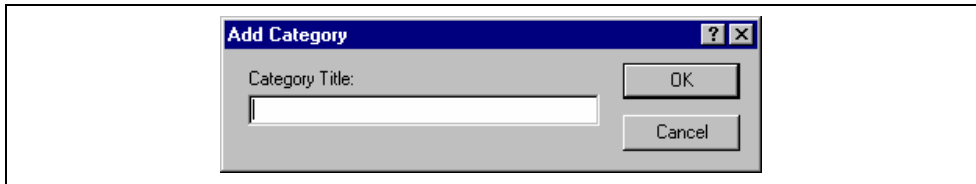

Figure 4.11: Add Category Dialog
3. Click "Add..." underneath the tree. The "Add Category" dialog box will be displayed (figure 4.11). Enter the name of the keyword group in the "Category Title" field, then click "OK" to create the new keyword group.